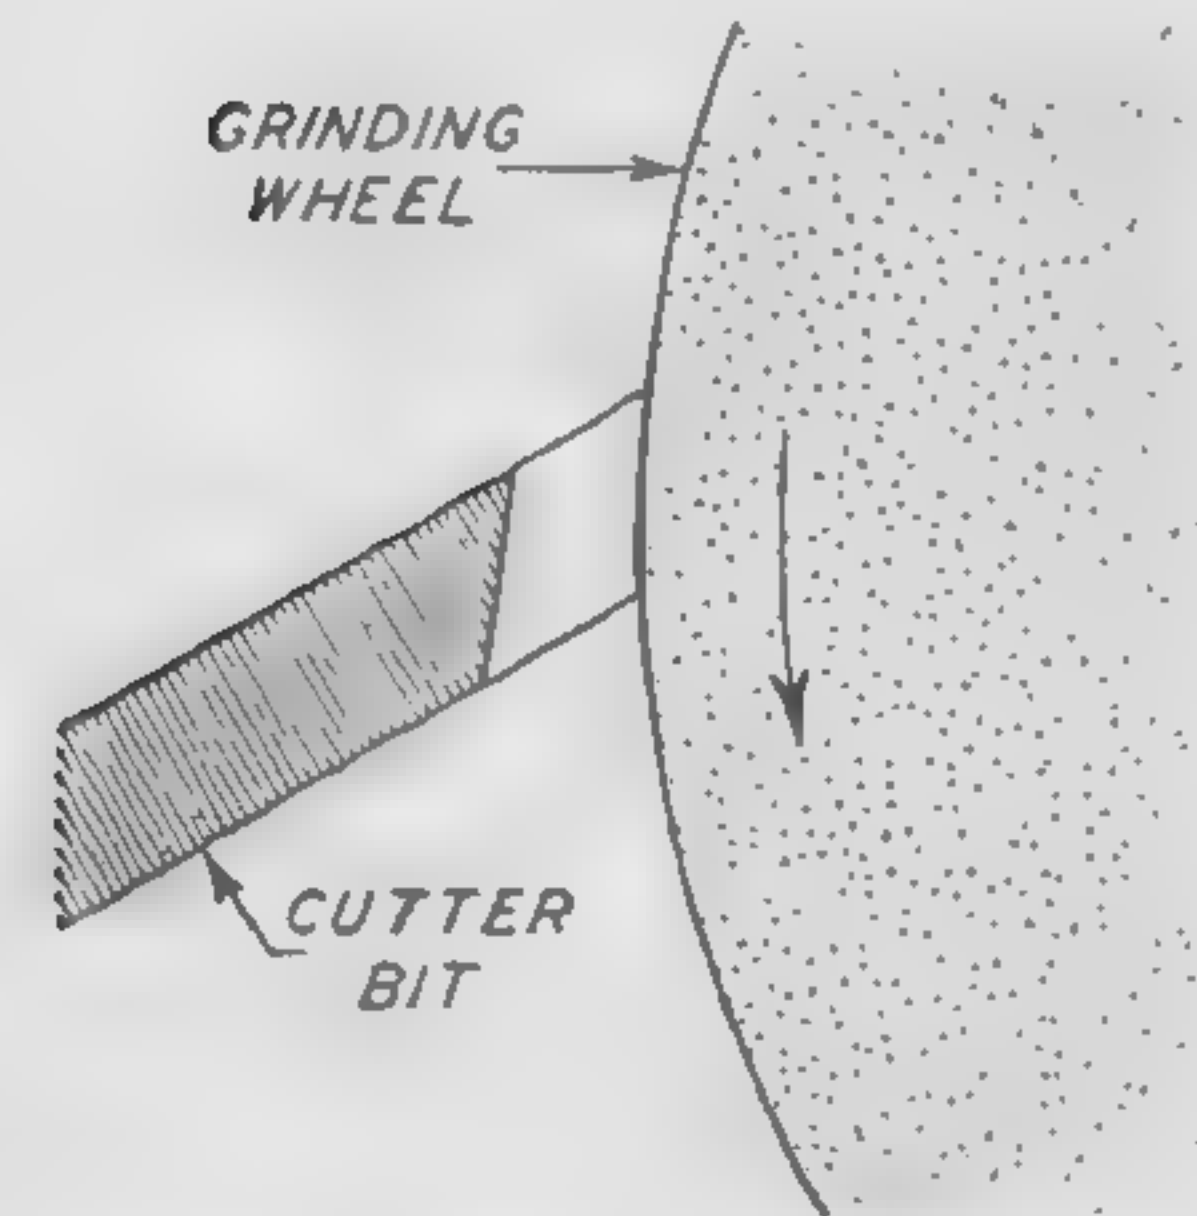

Fig. 30. Step 4—Grinding the Lathe Tool for Front Clearance
Step 4. Hold the tool at the correct angle to make the proper front clearance, Fig. 30.